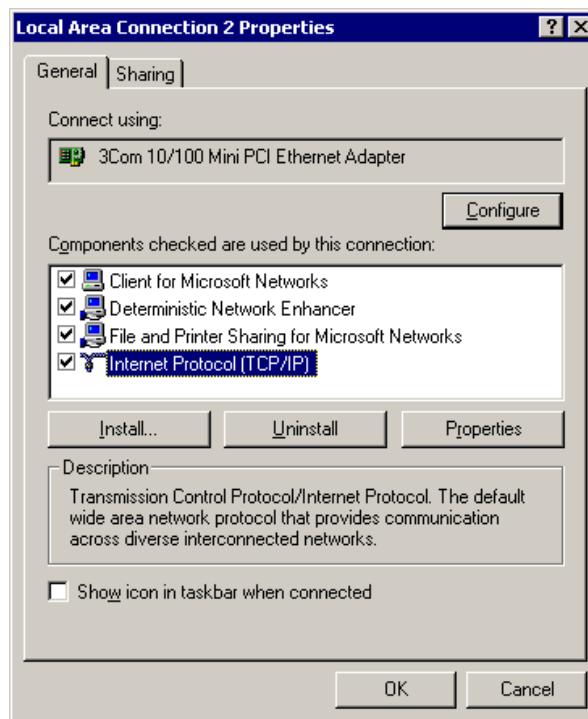

Figure 3. LAN settings
- LAN settings window similar to the one below in Figure 3 should appear.